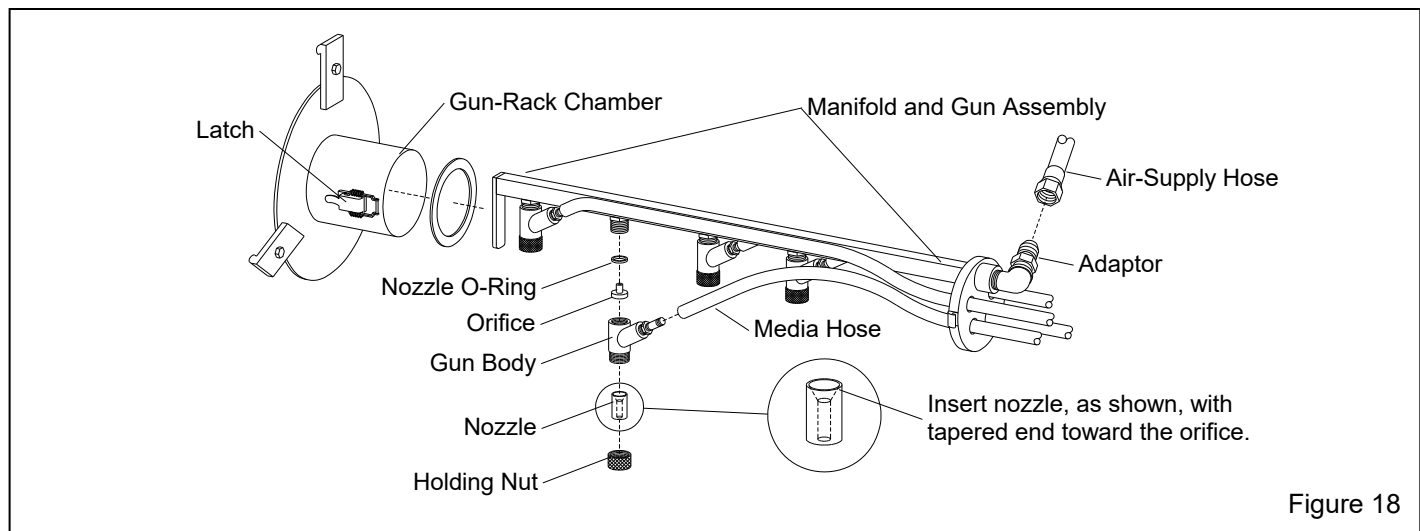

Figure 18
7.1 Gun and Nozzle Assembly – Figure 18 Refer to Section 9.4 for replacement parts.
7.1.8 Insert a new nozzle, making sure the tapered end faces toward the orifice, as shown Figure 18. Screw the holding nut onto the gun to secure the nozzle.